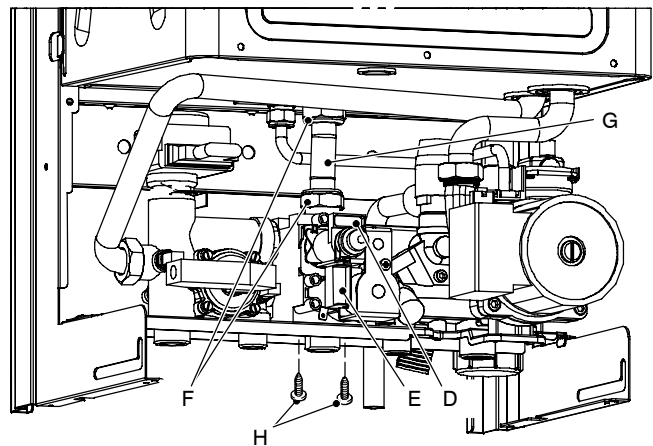

Fig. 57
- 2 Disconnect the connectors *D* (Fig. 57) from the modulating operator and measure the electrical resistance of the coil. Its electrical resistance value must be approx. 114  $\Omega^*$ .
- 2 Disconnect the electrical connector *E* (Fig. 57).
- 2 Disconnect the connectors *D* and *E* (Fig. 57).